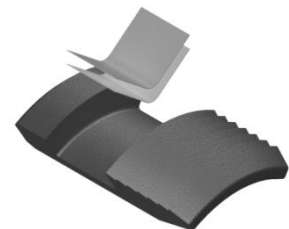

Fig. 3
**NOTE:** Install two (2ea) springs per slip (Fig. 3).